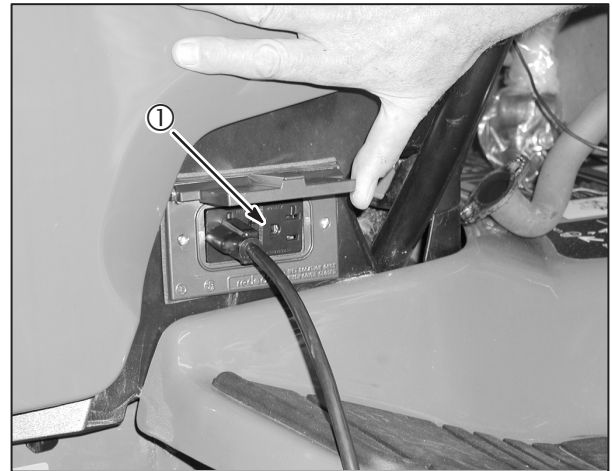

Fig. 34
1. The engine must be running with the parking brake (1) set and the PTO DISENGAGED.
3. Press the GFCI test button (1) to trip the GFCI, **Fig. 34**.